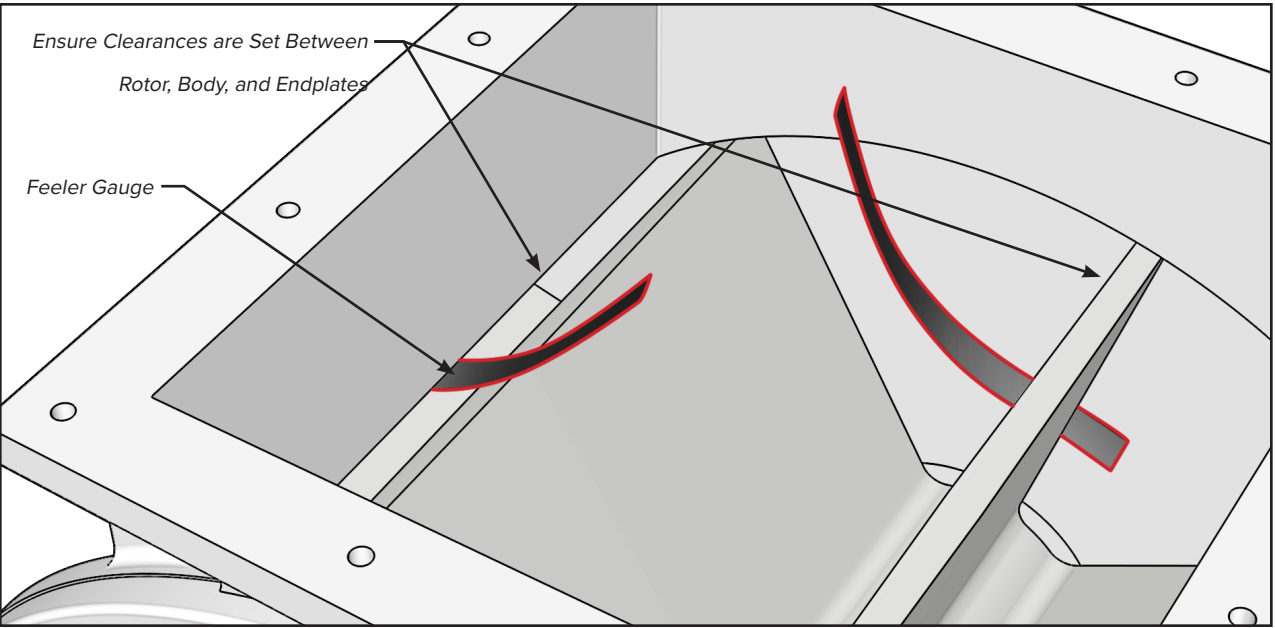

FIGURE 14
30. **Verify clearance using feeler gauges that ensure the rotor turns freely (figure 14).**